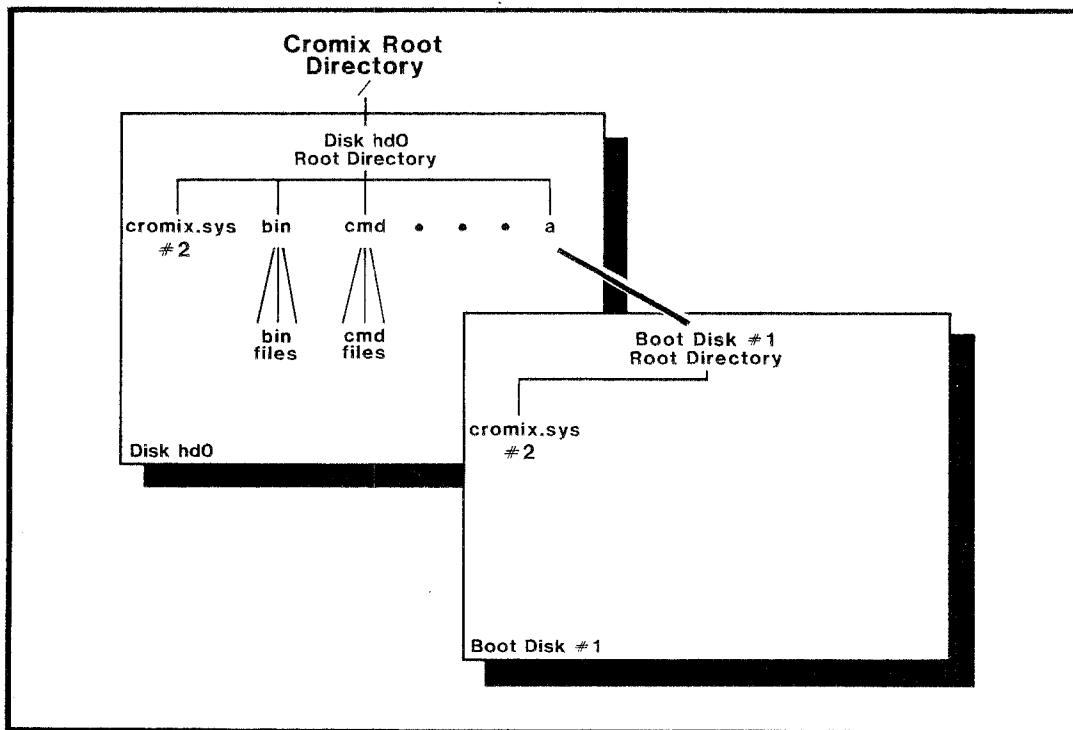

Figure 4-2: PROCEDURE 4D FILE STRUCTURE
- STEP 8 On LINE 14, mount the Boot Disk into the dummy file created above. Dummy file **/a** is now the root directory of the file structure on the Boot Disk, as shown in Figure 4-2 (program **cromix.sys** #2 in the figure is copied to directory **/a** in the next step).